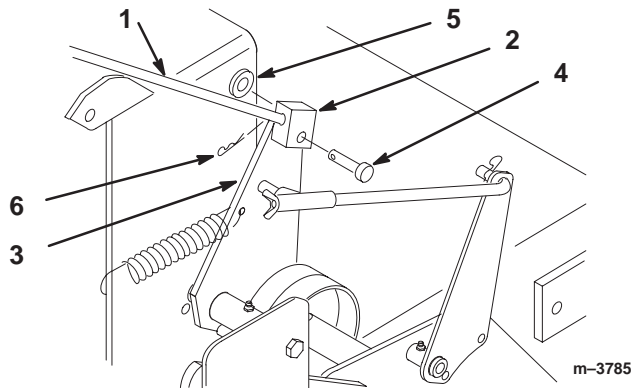

Figure 6
- Thread trunnions equal distance onto each control rod. For a starting point, thread on approximately 2 in. (51 mm) (Fig. 6).
- With trunnion rod up, slide clevis pins through rod fittings and mounting holes in idler brackets (from outside) (Fig. 6). Secure with washers (1/4 in.) and hairpin cotters (Fig. 6).